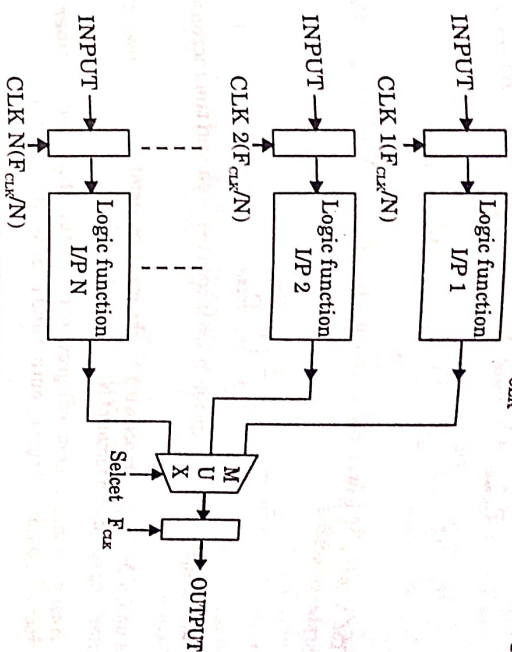

Fig. 4.17.1.
1. Another method for trading off area for low power dissipation is to use parallelism or hardware replication. Consider N identical processing element with function F (INPUT) each in parallel as shown in Fig. 4.17.1.